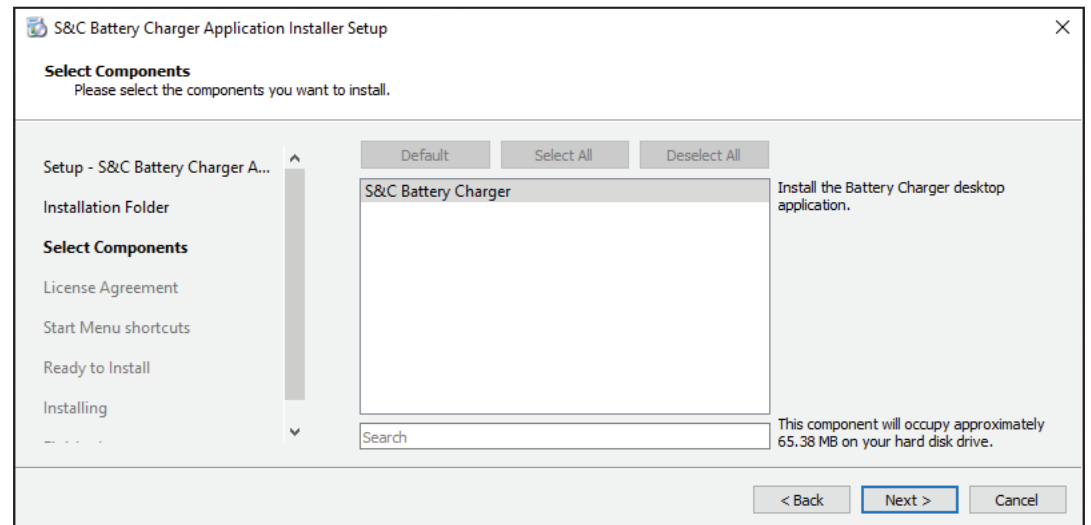

Figure 6. Selecting the components to install.
STEP 4. Click on the **S&C Battery Charger** menu item in the **Select Components** menu. See Figure 6. Then, click on the **Next** button.